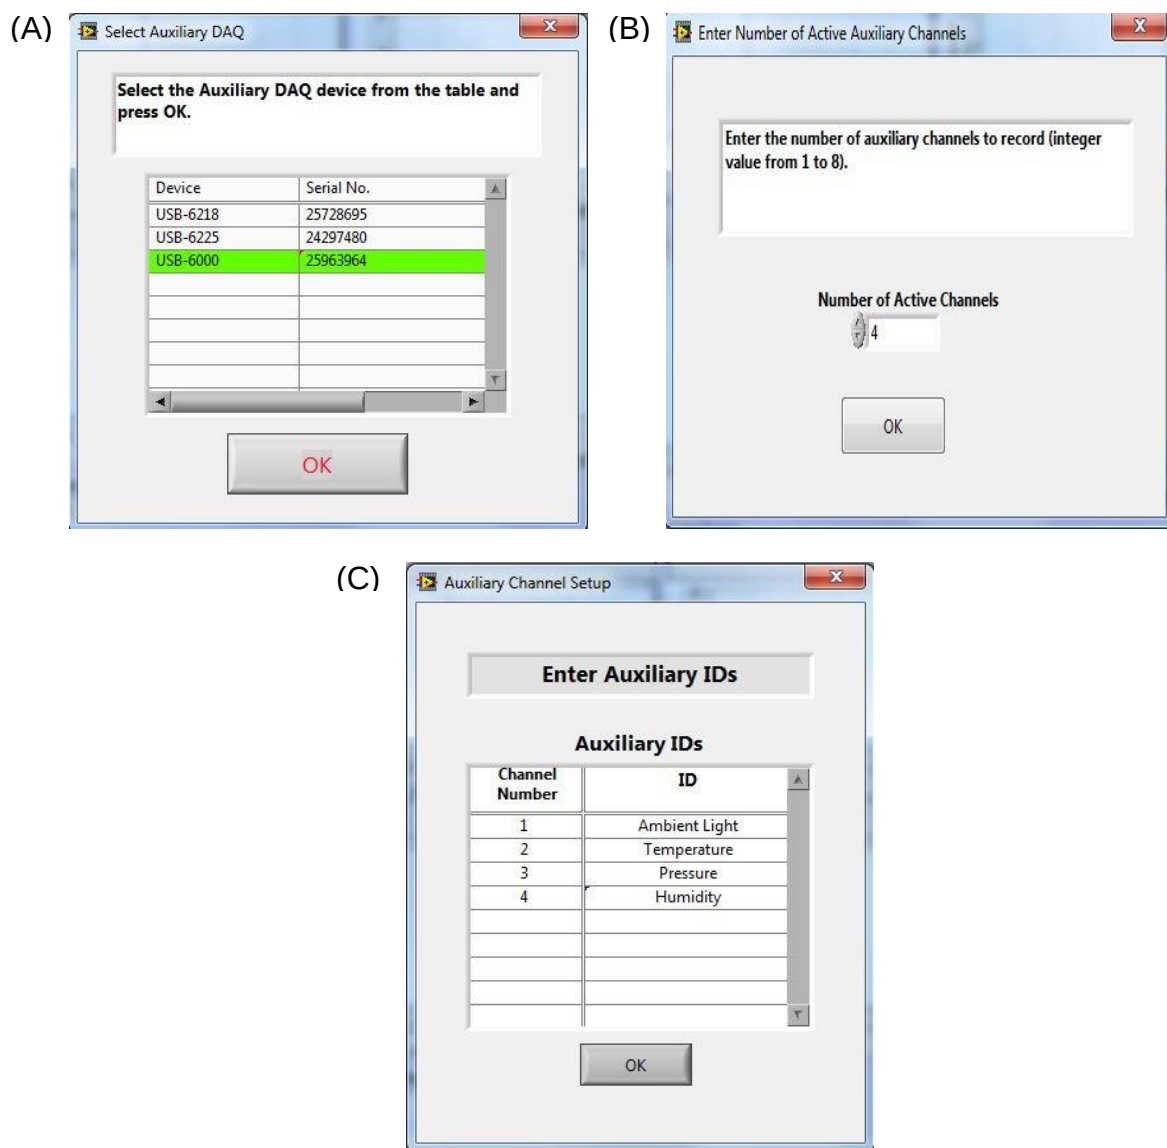

Figure 11. Steps to set up an auxiliary DAQ. (A) Select the DAQ device. (B) Enter the number of active channels. (C) Enter the auxiliary channel IDs.
- I. The auxiliary DAQ is set up in a way similar to the primary DAQ. The program prompts you to first select the DAQ device, followed by the number of active channels, and then the channel IDs. Figure 11 shows these prompts sequentially.